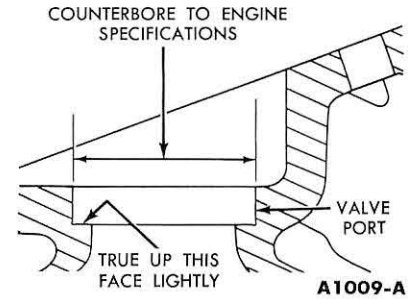

FIG. 31—HD V-8 Counterbore for Oversize Insert
4. Counterbore the insert recess to specifications (Fig. 31). Cut slightly